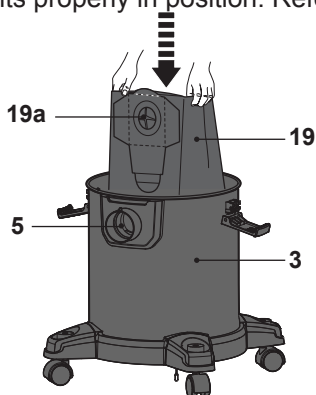

Fig. 5
- > Place the dust bag (19) into the tank (3). Ensure the dust bag opening (19a) is located on top.
- > Hold the side flaps of the dust bag opening (19a) and slide the dust bag opening (19a) onto the inner opening of the air inlet (6) (Fig. 5). Ensure the connection is properly sealed.